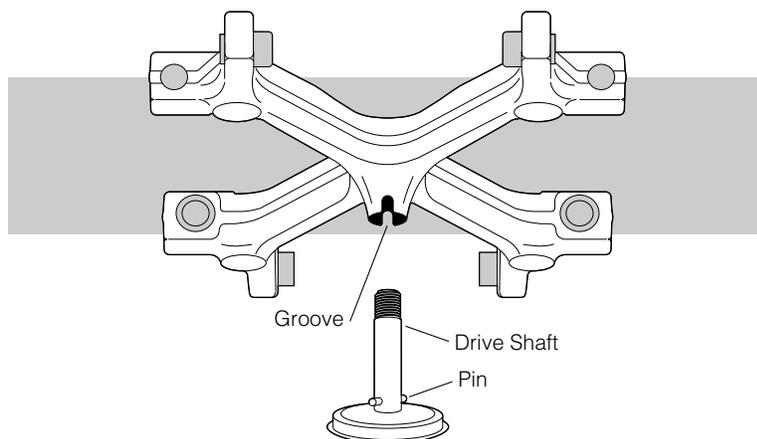

Figure 2. Rotor Yoke and Centrifuge Drive Shaft. Be sure the pin in the drive shaft is in the groove in the rotor yoke.
1. Note the orientation of the pin on the drive shaft and the groove in the bottom of the rotor yoke (see Figure 2).